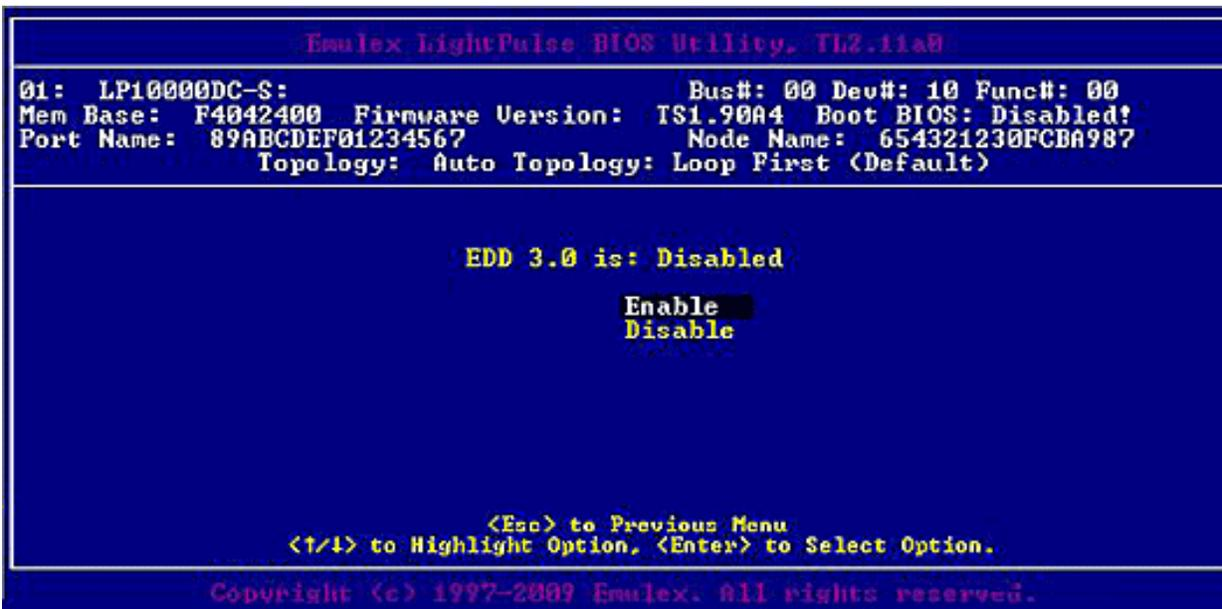

Figure 15: Enable or Disable EDD 3.0 screen
2. Select **Enable or Disable EDD 3.0**. Figure 15 is displayed.